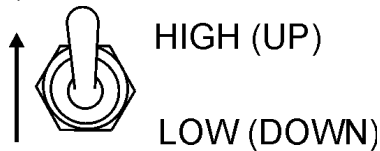

Figure 41. Engine Speed Switch (High)
9. Once the engine is warm and the engine is running properly, place the engine speed switch in the “**HIGH**” position (Figure 41).